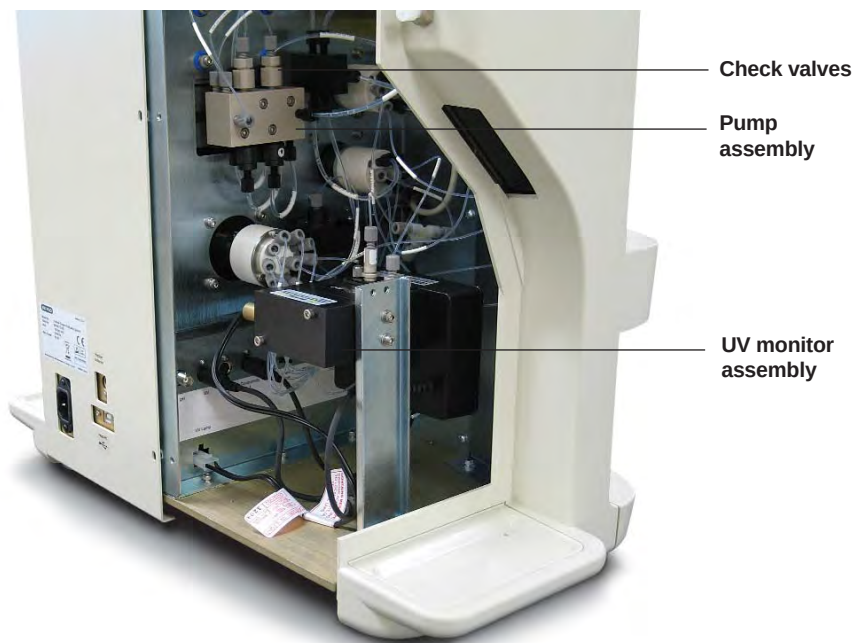

Fig. 13.2. Rear view of instrument with access panel removed.
6. Lift off the access panel by pulling it straight toward you (Figure 13.2). Set the access panel and thumbscrews aside.